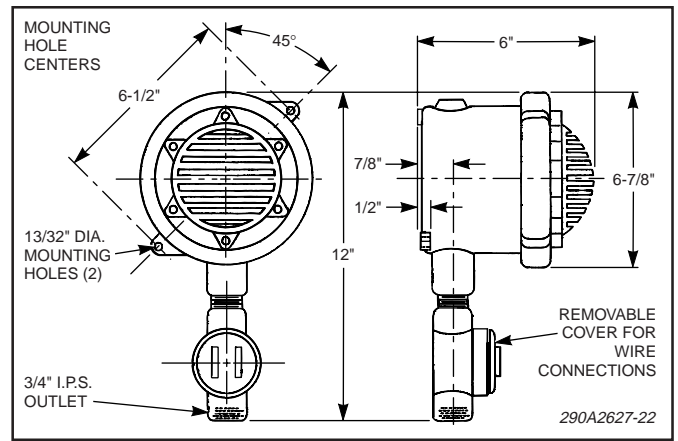

Figure 1. Model FHEX Mounting Dimensions.
2. Mounting Arrangements (see figure 1).
This device can be mounted on any relatively flat surface. Conduit connection can be made to 3/4" threaded opening in splicing conduit attached to this device (see figure 1).
- Using the horn as a template, scribe drill position marks on the mounting surface. See figure 1 for mounting hole locations and dimensions.